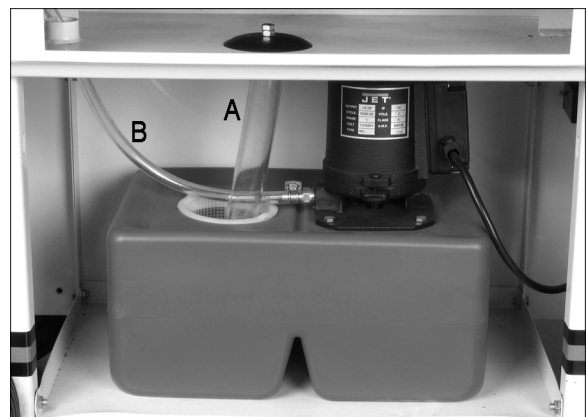

Figure 9
1. Remove coolant return hose (A, Figure 9) from filter cup and slide tank out of saw base.
4. The coolant supply hose (B, Figure 9) should connect to the taps on the blade guide assemblies.